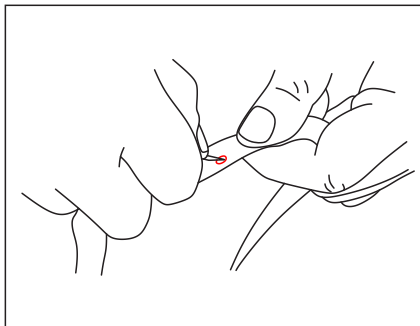
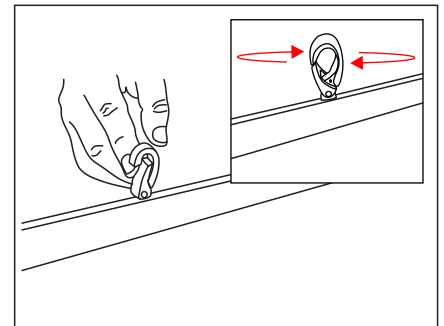

Fig. 19
Fig. 20
- Use a sharp tool to puncture the marked locations on the control tape (Fig.19). Insert the clips into the tape and screw them onto the bases with the opening of each clip facing towards the near end of the profile (Fig.20).
- Install the middle clips on the first and last profile. Do not tighten them so that the middle clip can move freely along the profile's length (Fig.20).